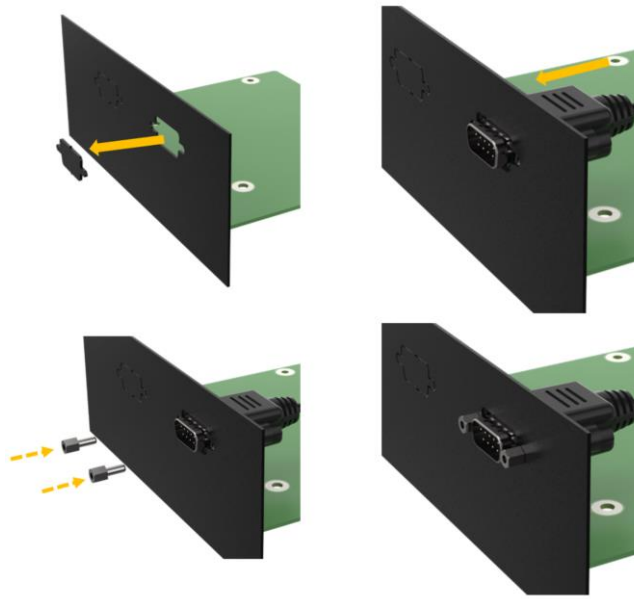

Figure 3-12: RS-232 DB9 Cable Installation
**Step 3:** Knock out the reserved holes on the chassis and Secure the DB9 end of the serial cable to the panel. (**Figure 3-12**)